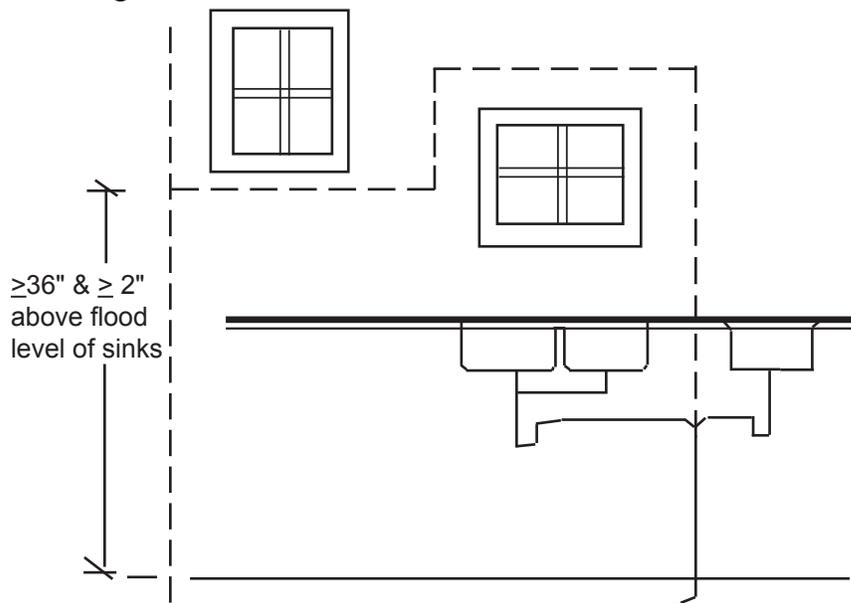

Figure 47. Vent drain, offset & connection requirements
**- Drains within venting systems.** The code permits vents to be graded so as to drain. The installation of these drains must still comply with the offset height requirement in s. Comm 82.31 (15) (b) 2. See figure 47.